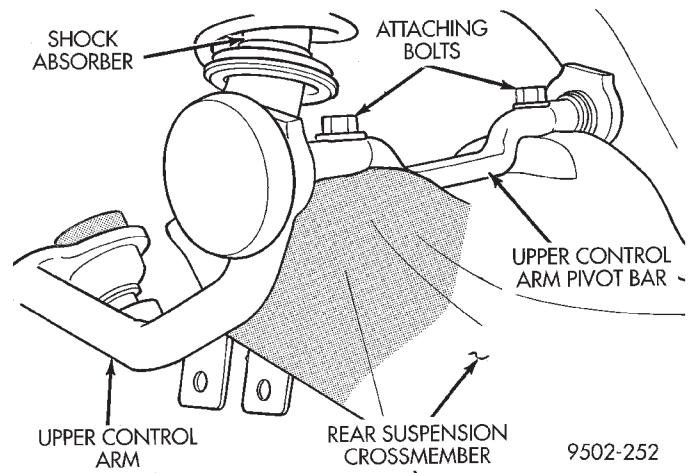

Fig. 28 Upper Control Arm Attachment To Crossmember
(11) Remove the 2 bolts (Fig. 28) attaching the upper control arm to the rear suspension crossmember.
Tighten the 2 pivot bar to crossmember attaching bolts (Fig. 28) to a torque of 108 N·m (80 ft. lbs.).